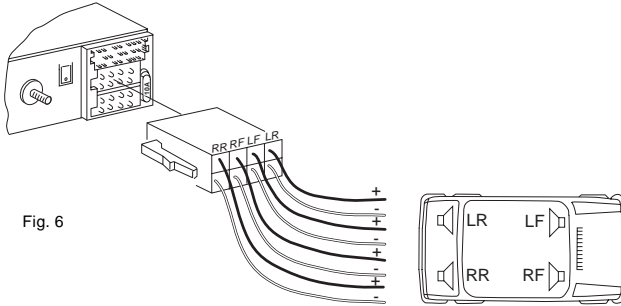

Fig. 6
- Connect the speaker leads only as indicated on the speaker wire block. (See Fig. 6)